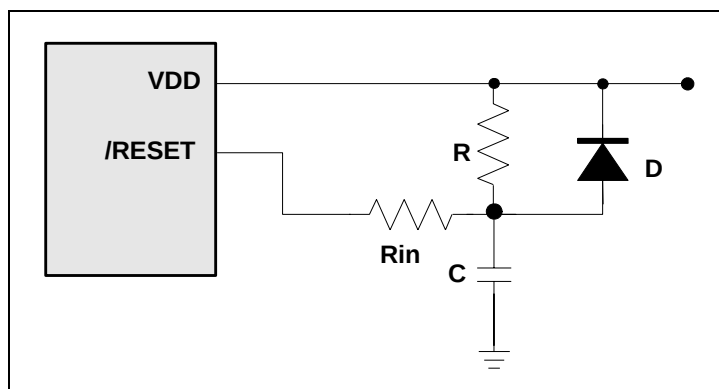

Figure 8-6 External Power on Reset Circuit
The circuit shown in Figure 8-6 (External Power-on Reset Circuit) implements an external RC to produce a reset pulse. The pulse width (time constant) should be kept long enough to allow V_{DD} to reach minimum operation voltage. This circuit is used when the power supply has a slow rise time. Because the current leakage from the /RESET pin is about $\pm 5 \mu\text{A}$, it is recommended that R should not be greater than 40K. In this way, the voltage at Pin /RESET is held below 0.2V. The diode (D) acts as a short circuit at power-down. The capacitor, C, is discharged rapidly and fully. R_{in}, the current-limited resistor, prevents high current discharge or ESD (electrostatic discharge) from flowing into Pin /RESET.